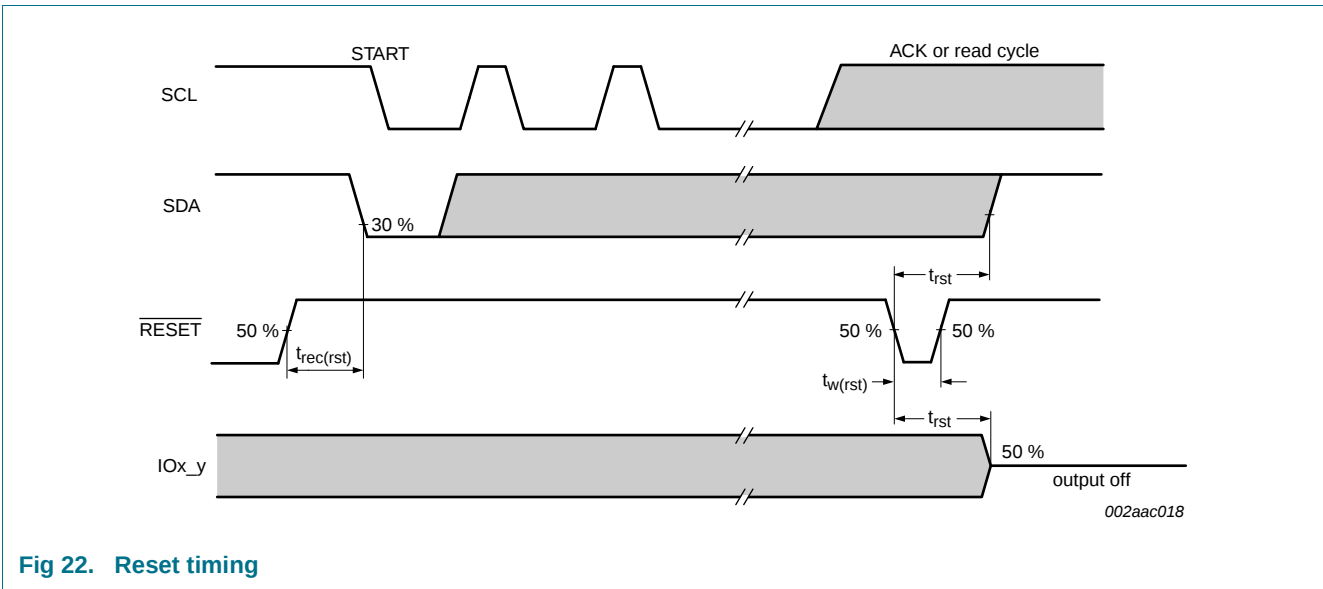

Fig 22. Reset timing
**Reset timing (see Figure 22)**